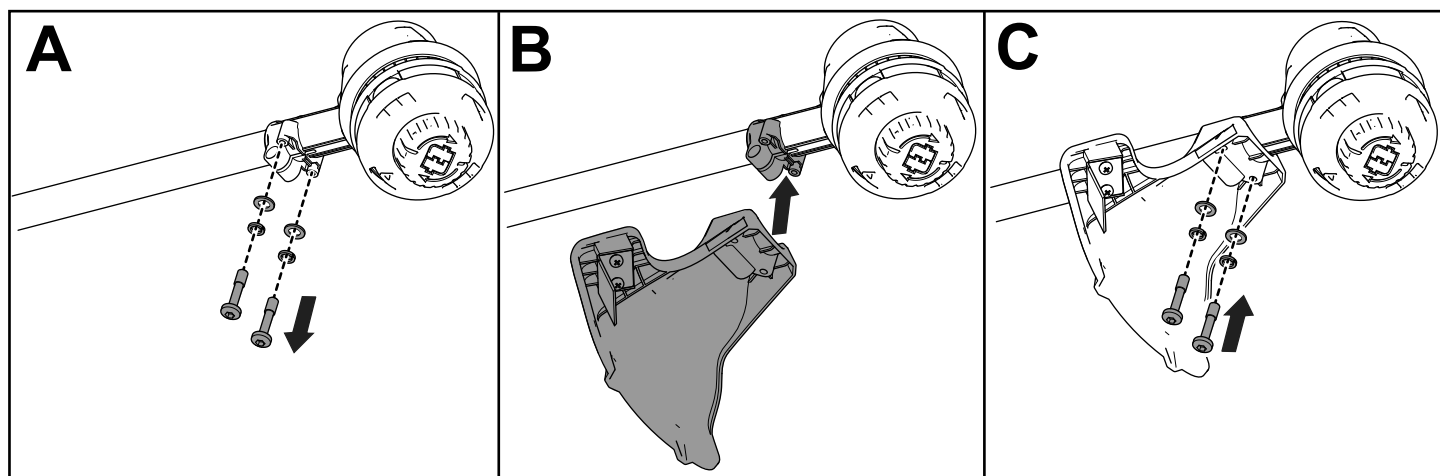

Figure 6
1. Using the provided Allen wrench, remove the 2 socket head screws, 2 washers, and 2 spacers from the trimmer base (A of Figure 6).
2. Align the guard onto the trimmer base (B of Figure 6).